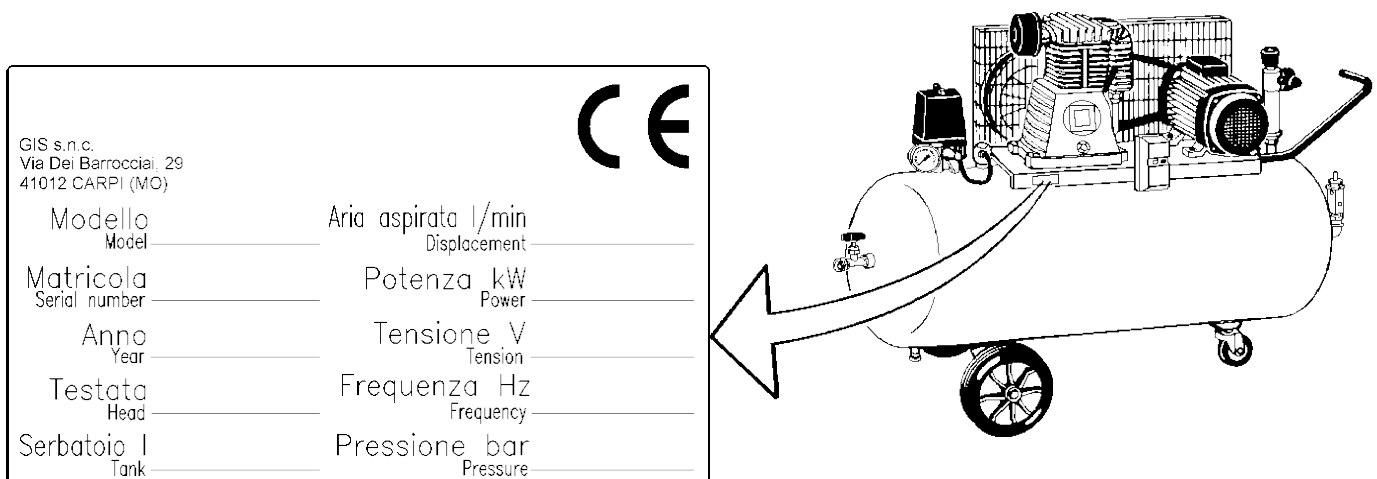

Fig 1-1
The electrocompressor is identified through a label attached on the side of the motor-holding plate. (fig. 1-1).
1. type and model of the compressor (it can be read on the plate of fig. 1-1)
2. serial number (it can be read on the plate of fig. 1-1)
3. voltage and frequency of the electrocompressor (it can be read on the plate of fig. 1-1)